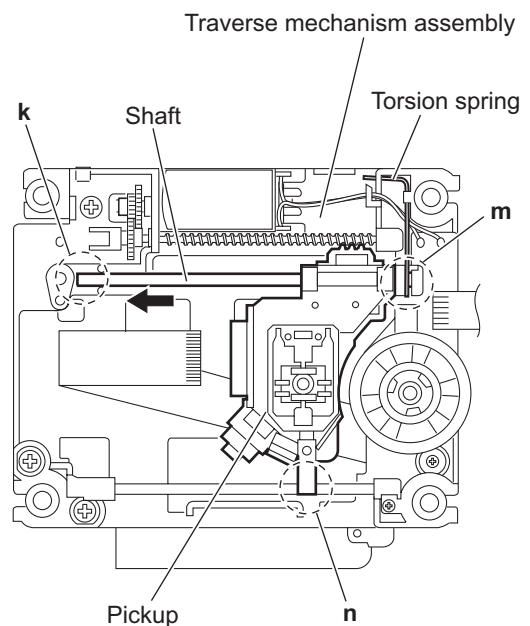

Fig.7
- (6) Remove the shaft of the pickup from the section **k** on the traverse mechanism assembly and remove the shaft from the section **m** while moving it in the direction of the arrow. (See Fig.7.)
- (7) Remove the pickup from the section **n** of the traverse mechanism assembly and take out the pickup with the shaft. (See fig.7.)
- (2) Align the pickup to the section **n** of the traverse mechanism assembly first and set the both ends of the shaft of the pick-up in the sections (**k**, **m**) of the traverse mechanism assembly. (See Fig.7.)
When attaching the shaft to the section **m**, attach it under the torsion spring. (See Fig.7.)